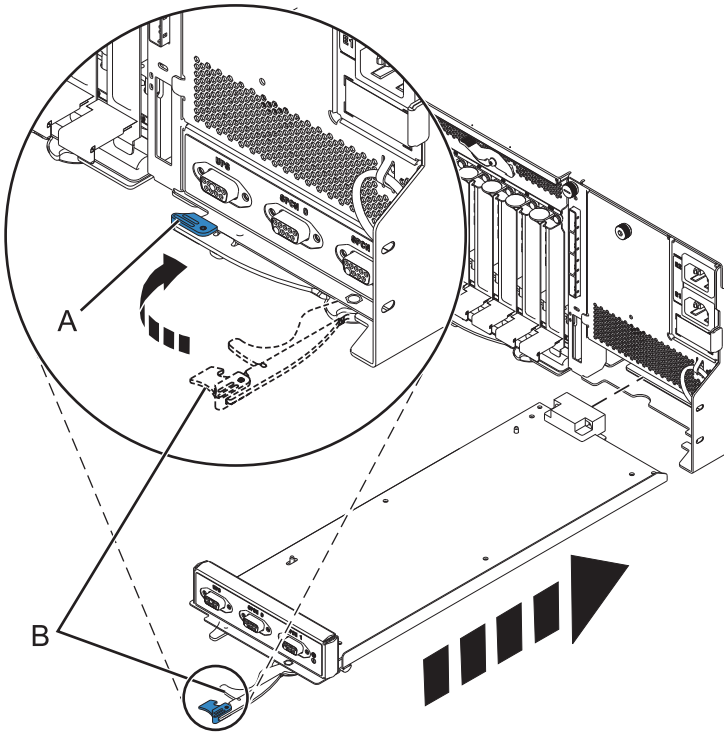

Figure 136. Replacing the enclosure management controller
- Carefully slide the enclosure management controller into the system and close the latch (A) as shown in Figure 136.